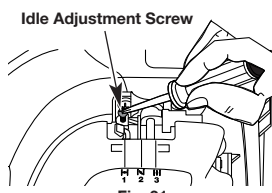

Fig. 31
The idle speed of the engine is adjustable. An idle adjustment screw is between the air filter cover and the engine starter housing (Fig. 31).
2. Release the throttle trigger and let the engine idle. If the engine stops, insert a small phillips in between the air filter cover and the engine cover (Fig. 31). Turn the idle speed screw in, clockwise, 1/8 of a turn at a time (as needed) until the engine idles smoothly.